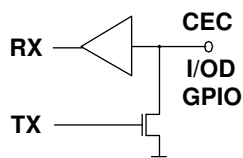

Figure 3. Typical  $\mu$ C I/OD Driver
The Consumer Electronics Control (CEC) line is a high level command and control protocol, based on a single wire multidrop open drain communication bus running at approximately 1kHz (See Figure 3). While the HDMI link provides only a single point-to-point connection, up to ten (10) CEC devices may reside on the bus, and they may be daisy chained out through other physical connectors including other HDMI ports or other dedicated CEC links. The high level protocol of CEC can be implemented in a simple microcontroller or other interface with any I/OD (input/open-drain) GPIO.